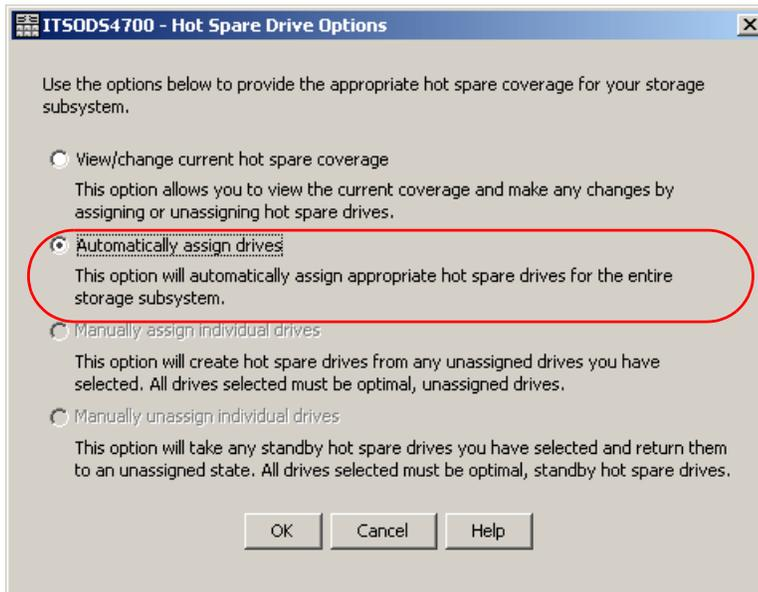
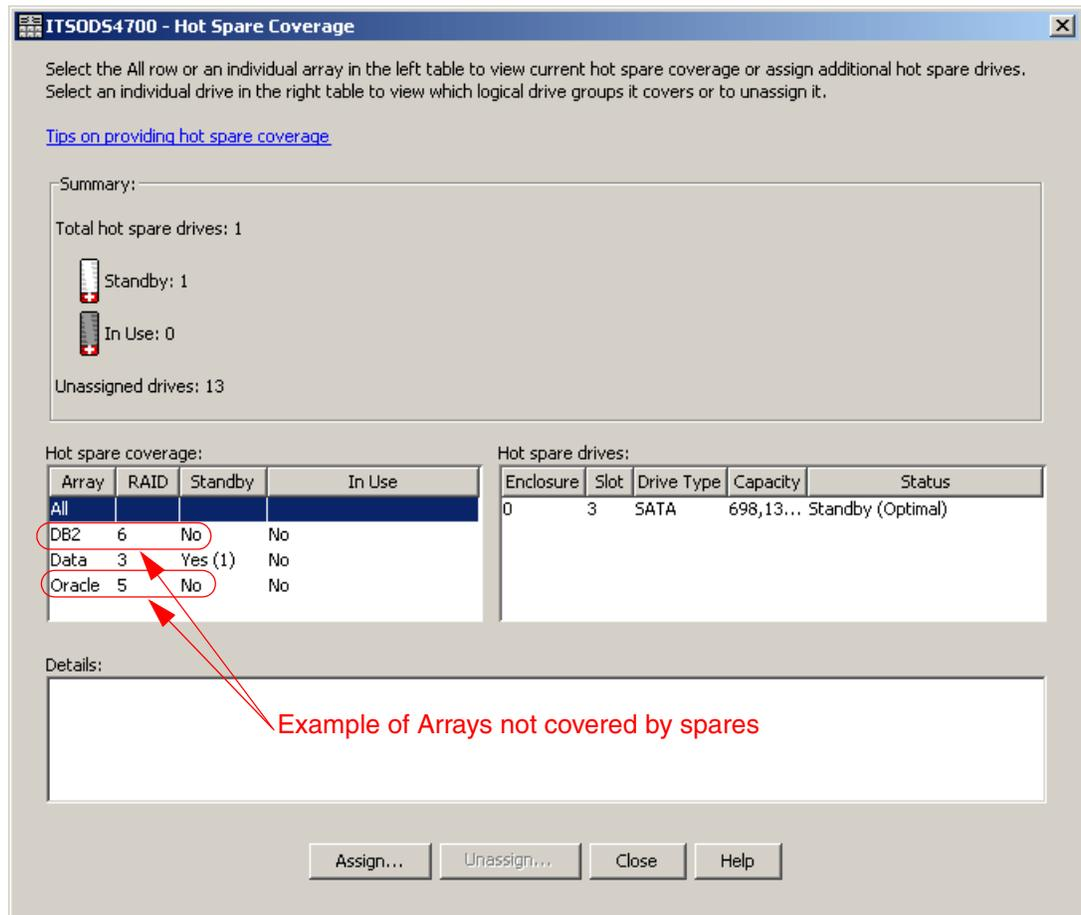

Figure 5-48 Hot Spare Drive Options: Automatic hot spare coverage
Figure 5-49 View/Change hot spare coverage
2. This opens the Hot Spare Drive Options box, as shown in Figure 5-48. Select **Automatically assign drives**. The automatic function sets one hot spare drive for each 30-disk drive of the same type (FC/SATA).
- This opens the Hot Spare Drive Options box (Figure 5-48 on page 251), but this time with the option **Manually assign individual drives** selected by default. If any array on the DS4000 storage server contains larger drives than the drive that you have chosen, a warning message appears notifying you that not all arrays are protected by the hot spare drive.
- This opens the Hot Spare Drive Options box (Figure 5-48 on page 251). Select the option **View/Change current hot spare coverage** and click **OK**. This generates a window similar to Figure 5-49.